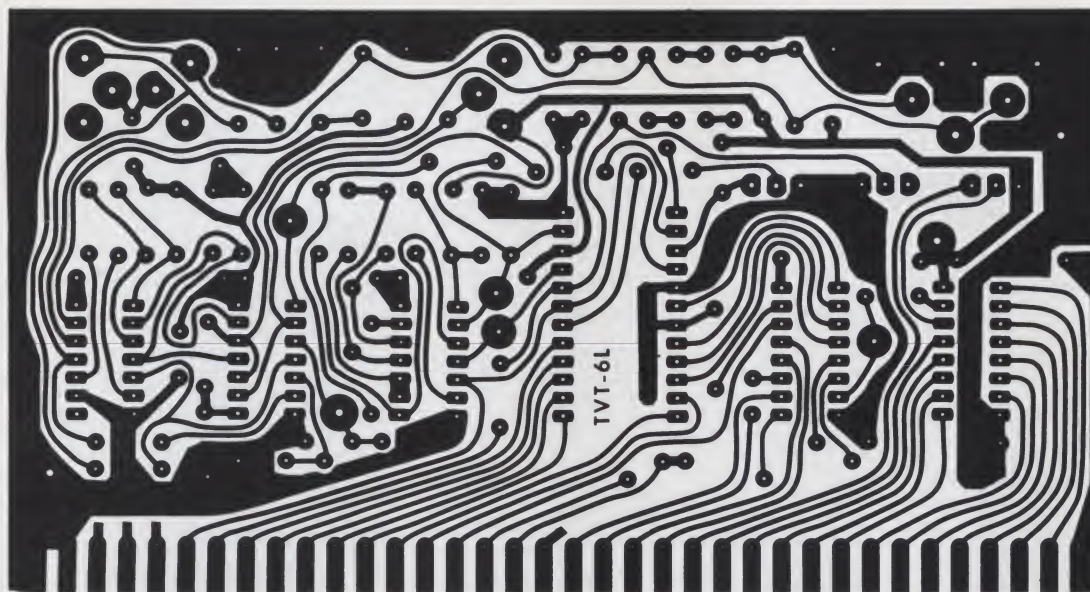

Fig. 4. TVT-6L printed circuit board layout (full size).
MISC:	PC Board, etched and drilled per Fig. 4; Test Point Terminals (9); PC Sockets, 24 pin (1), 16 pin (2), 14 pin (3); Matching connector (Amphenol 225 or equivalent); Sleeving; jumper material; solder.